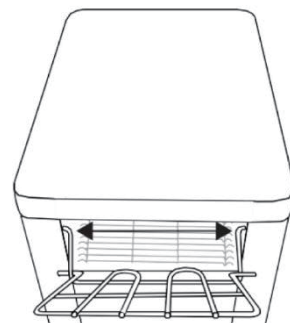

Fig. 1
1. Squeeze the arms of the feeder and slot the arms in to the feeder mounting holes (Fig. 1).